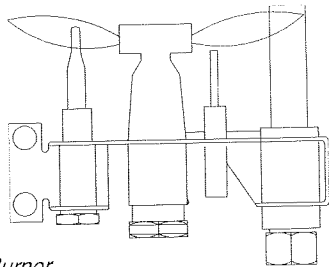

Figure 11. Pilot Burner
2. Adjust pilot screw to provide properly sized flame as shown in figure 11.